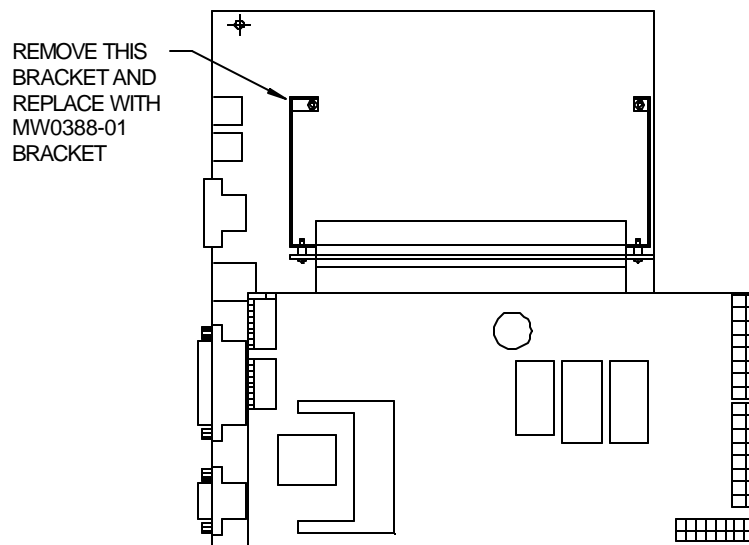

FIGURE 2 - EXISTING BRACKET LOCATION
- Remove the existing bracket securing the riser card to the motherboard. Note the location of the bracket in relation to the connectors on the motherboard. See Figure 2.